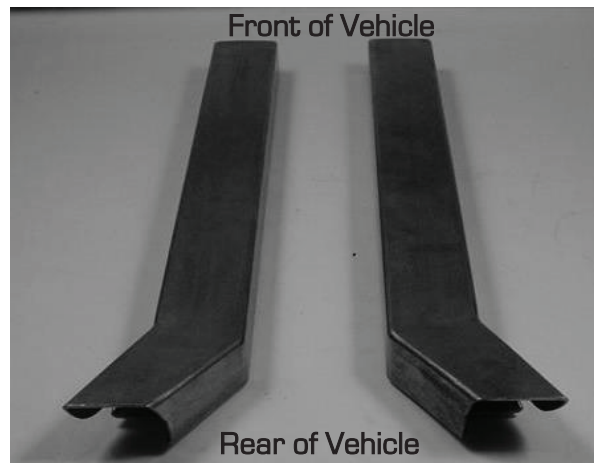

Figure 1
8. The subframe connectors are not symmetrical; they are labeled driver side and passenger side for your convenience. The angled portion of the subframe connector should be positioned toward the rear of the vehicle and point outward (Figure 1 on the next page).